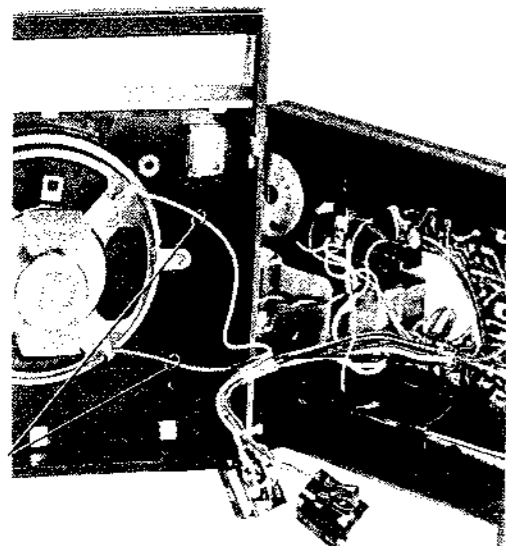

Fig. 4-2 Chassis removal
4. Unsolder two speaker lead wires shown in Fig. 4-2.